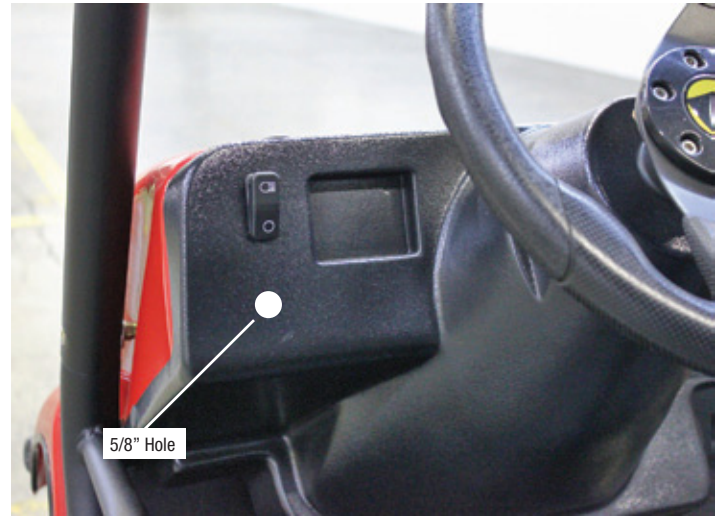

Fig. 2
- 2 Drill a 5/8" hole in the plastic dash in the desired position for the horn button making sure that wiring will reach the horn and terminal block. (see figure 2 for recommended placement)